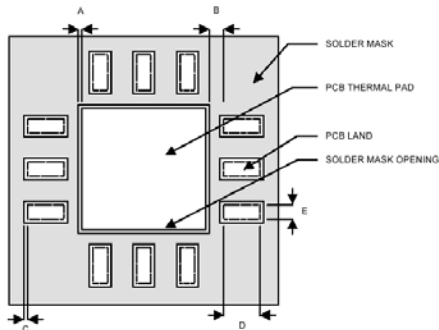

Figure 23. PCB Land and Solder Mask Recommendations
1. PCB land and solder masking recommendations are shown in Figure 23.